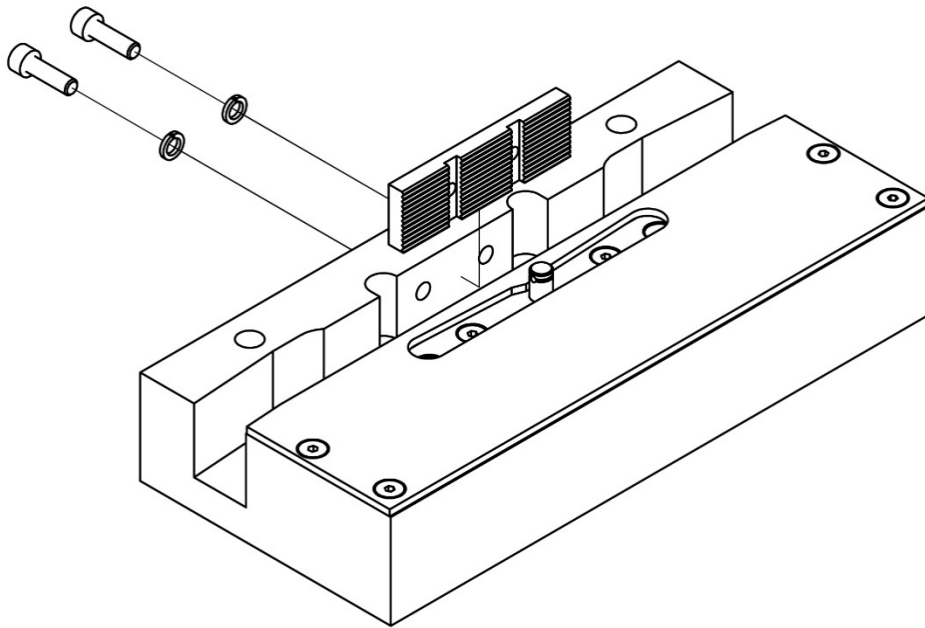

Figure7 Removing the shoe
3. Unscrew the DIN 912 M6 screws from the shoe according to Figure7.